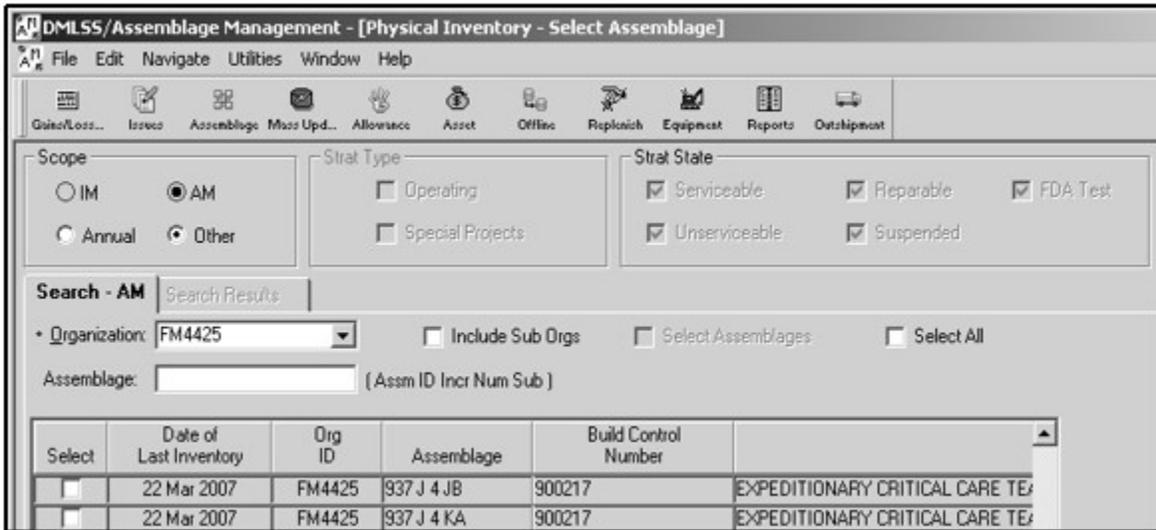

Figure 30. Physical Inventory – Select Assemblage Window.
(1) Purpose. Use the Physical Inventory module to assess and document the accuracy of automated inventory balances. The Physical Inventory module includes adjusting recorded balances to match actual inventory balances by processing losses and gains to items. Reports specific to the inventory process are also available.
(2) Select Assemblage. From the “Navigate” menu, select “Physical Inventory” and then “Select Assemblage” to access the “Physical Inventory – Select Assemblage” window (Figure 30). Use the Physical Inventory features as follows: